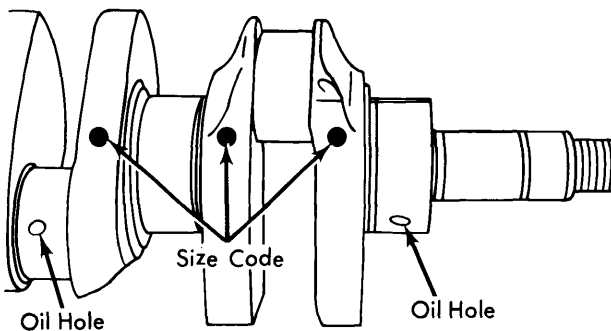

Fig. 7 Crankshaft Color Code Markings
- 1) With piston removed and disassembled from connecting rod, measure diameter of piston. Measure with micrometer positioned 90° from pin hole and at a point measured from bottom of piston skirt (Distance "A", see Fig. 7). **NOTE** — Distance "A" depends on piston manufacturer, see table below.